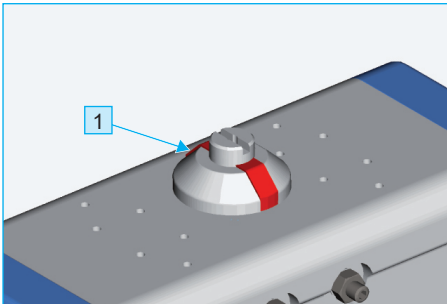
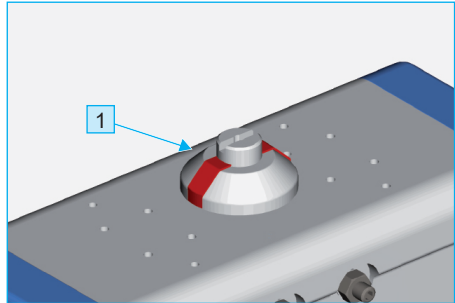

Fig. 3-11 Operating and display elements of the rotary actuator actubar
Fig. 3-12 Operating and display elements of the rotary actuator actubar
The pneumatic rotary actuator is delivered as required in a double- and single-acting function (with safety springs which return the rotary actuator to the basic position). The respective valve position is indexed via the standard optical position indicator (see Fig. 3-11 and Fig. 3-12). The end position feedback device can be ordered as an accessory
- *Fig. 3-11* indicates the closed position
- *Fig. 3-12* indicates the open position
- *Fig. 3-11* indicates the open position
- *Fig. 3-12* indicates the closed position